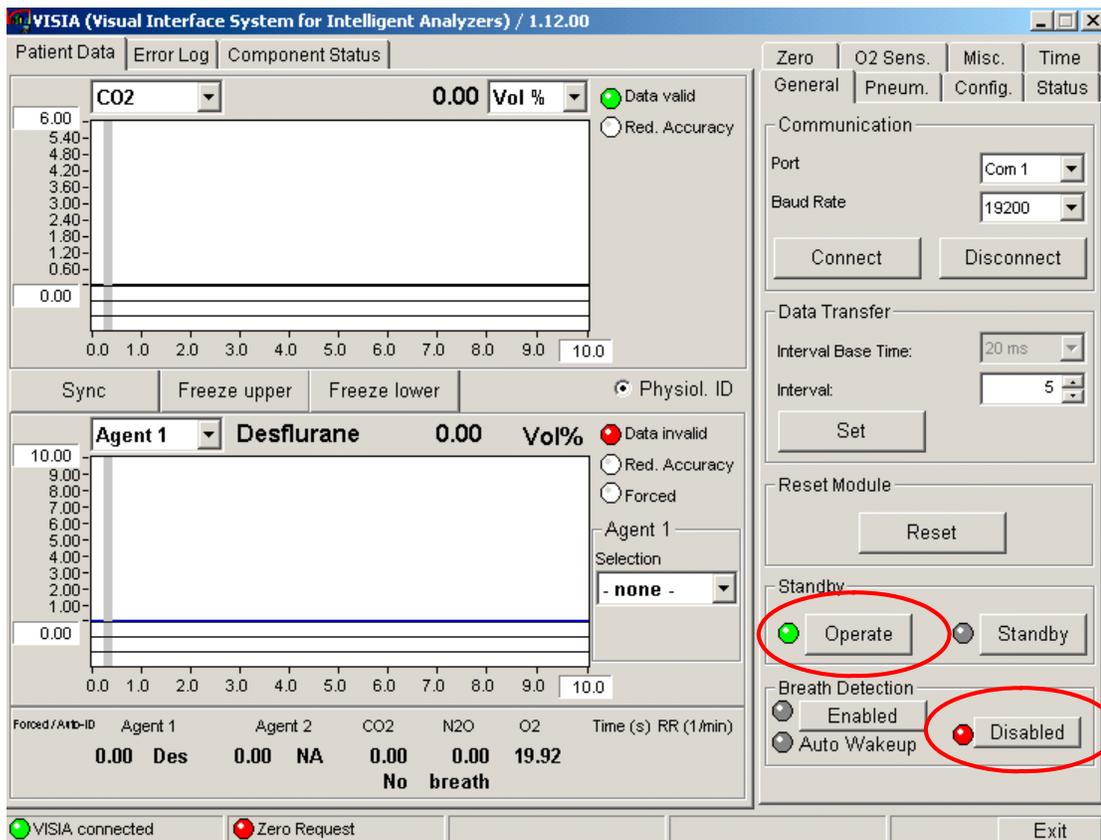

Figure 5 General Tab in VISIA tool
- 2 Switch Breath Detection to *Disabled* (as shown in Figure 5) and